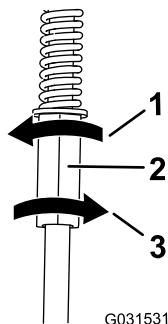

Figure 50
4. Rotate the left control rod in quarter-turn increments until the machine tracks straight (Figure 50).